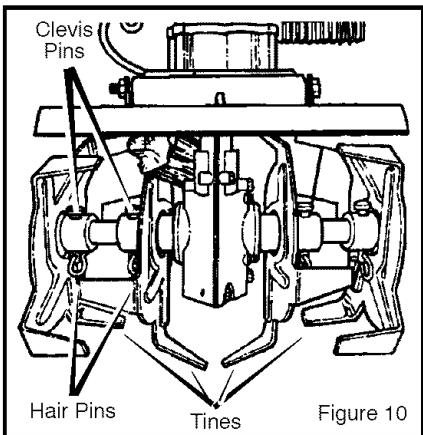

Figure 10
3. While wearing gloves, remove the **hair-pins** and **clevis pins** that secure the tine assemblies to the shaft (see Figure 10). Remove the **tines** from one side of the unit.
4. Mount the outside tine on the tine shaft and fasten with the **clevis pin** and **hairpin** (see Figure 10).